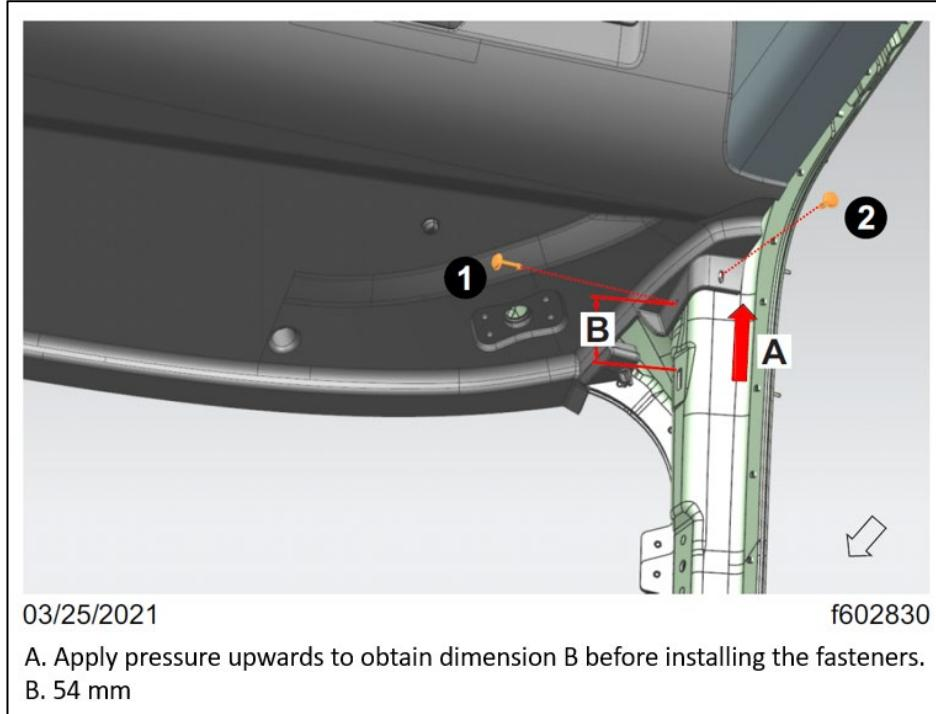

Fig. 60, Installing the Fasteners That Attach the RH Side Overhead Storage Cabinet to the A-Pillar
12.6. See Fig. 60. Applying pressure upwards on the RH side overhead storage cabinet, install the two fasteners that attach the RH side overhead storage cabinet to the A-pillar. Tighten the fasteners 11 to 13 lbf.ft (14 to 18 N.m) as per the sequence shown in Fig. 60.